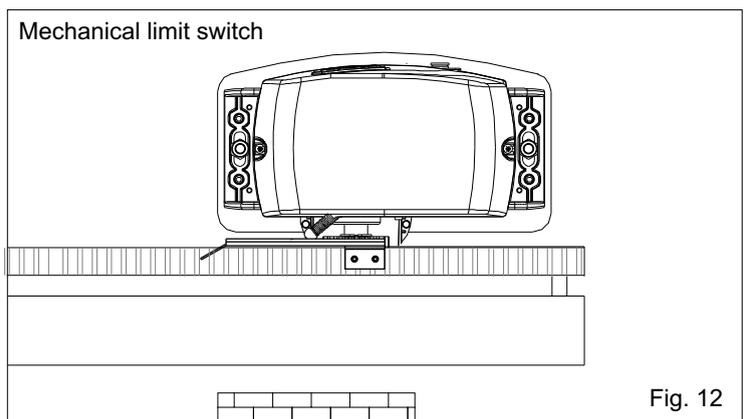
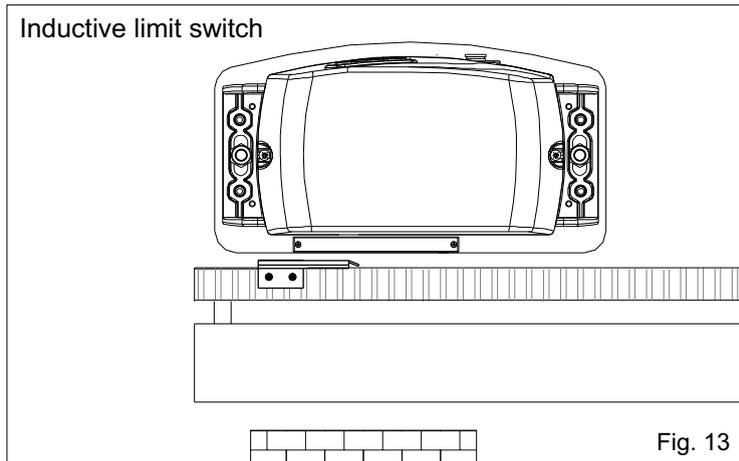
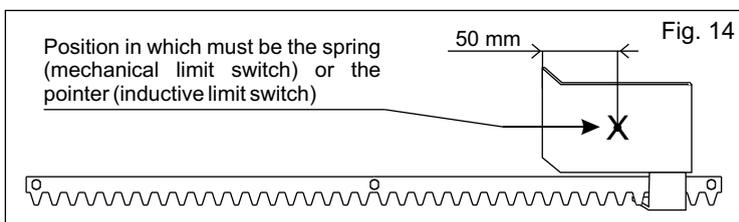

Fig. 12
Fig. 13
Fig. 14
- Place the small plate on the gear rack so that the limit switch is (small lever in case of mechanical limit switch (Fig. 12); small pointers placed on the upper part in case of inductive limit switch (Fig. 13)) in correspondence of point X which is placed 50 mm from the folded side of the small plate (Fig. 14) and fix it with the delivered screws (Fig. 15).
- Place the small plate on the gear rack so that the limit switch is in correspondence of point X which is placed 50 mm from the folded side of the small plate (Fig. 14) and fix it with the delivered screws (Fig. 15).